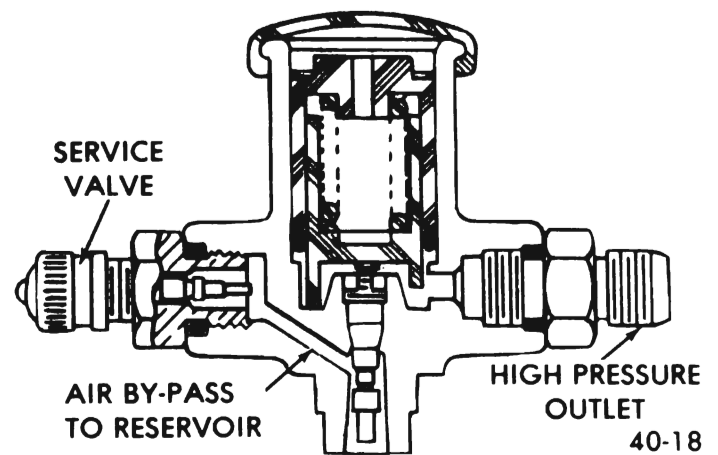

Figure 40-22 - Pressure Regulator Valve
c. The pressure regulator valve is preset and limits the reservoir outlet pressure to approximately 125 psi to avoid damage to the height control valve and Superlift shocks. See Figure 40-22.